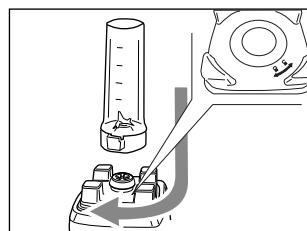
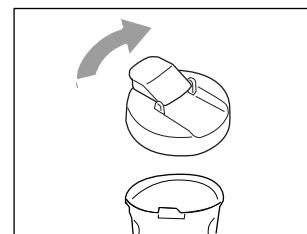

Fig. 7
Fig. 8
- Overturn the container (N) and position it on the motor body (E) properly by rotating it slightly until it locks in place (Fig. 7).
- After use, unplug the appliance and wait for the blades to stop before removing the container (N) from the motor body (E).
- Overturn the container (N) again and place it on a flat surface. To open the container, unscrew the blade set (P).
- Fit the lid with spout (O) on the container to carry it with you throughout the day (Fig. 8) or to store it in the refrigerator. The container cannot be filled up to 400 ml.